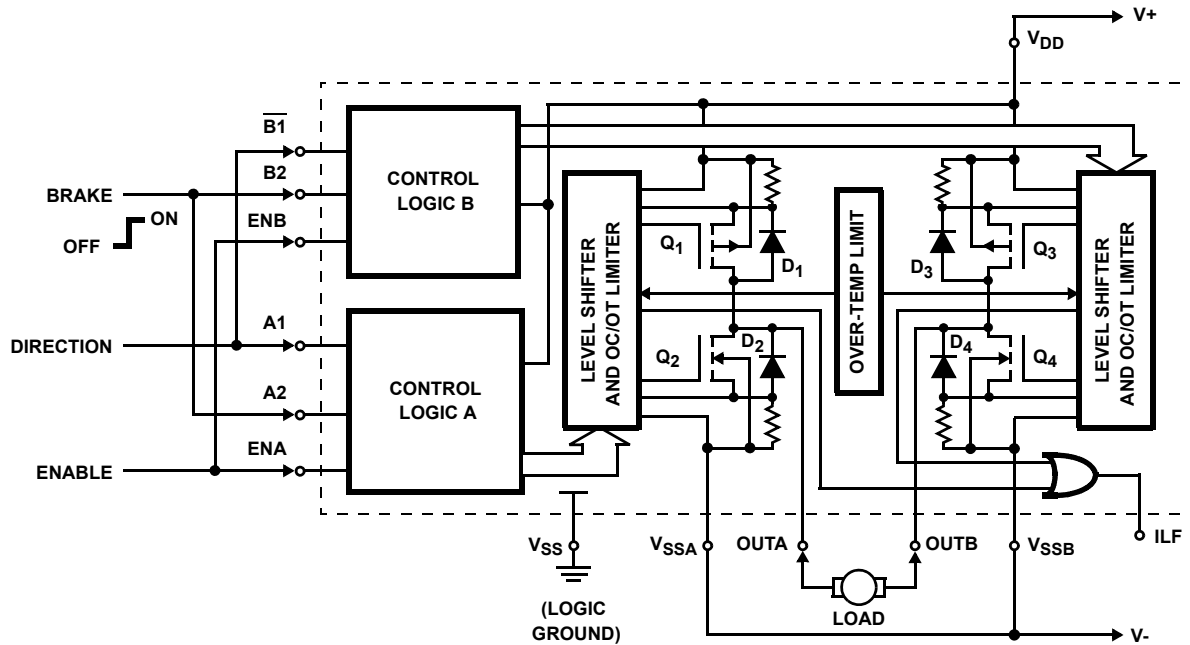

FIGURE 2. TYPICAL MOTOR CONTROL APPLICATION CIRCUIT SHOWING DIRECTIONAL AND BRAKING CONTROL
- See the Truth Table and the  $V_{EN}$  to  $V_{OUT}$  Switching Waveforms. Current  $I_O$  refers to  $I_{OUTA}$  or  $I_{OUTB}$  as the output load current. Note that ENA controls OUTA and ENB controls OUTB. Each Half H-switch has independent control from the respective A1, A2, ENA or B1, B2, ENB inputs. See the terminal Information table for external pin connections to establish mode control switching. Figure 2 on page 4 shows a typical application circuit used to control a DC Motor.
The HIP4020 is designed to detect load current feedback from sampling resistors of low value in the source connections of the output drivers to  $V_{DD}$ ,  $V_{SSA}$  and  $V_{SSB}$  (see Figure 2). When the sink or source current at OUTA or OUTB exceeds the preset OC (Overcurrent) limiting value of 550mA typical, the current is held at the limiting value. If the Over-Temperature (OT) Shutdown Protection limit is exceeded, temperature sensing BiMOS circuits limit the junction temperature to 150°C typical.
Figure 2 shows the Full H-switch in a small motor-drive application. The left (A) and right (B) H-switch's are controlled from the A and B inputs using the A and B control logic to the MOS output transistors  $Q_1$ ,  $Q_2$ ,  $Q_3$ , and  $Q_4$ . The circuit is intended to safely start, stop, and control rotational direction for a motor requiring no more than 0.5A of supply current. The stop function includes a dynamic braking feature.